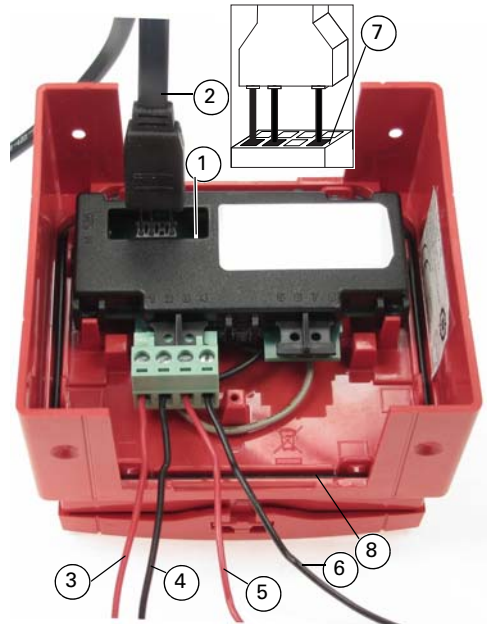

Fig. 2: FC421CP-I Rear View and Wiring Information
The FC421CP-I is programmed with the address prior to installation using an address programming tool. The associated ancillary programming lead plugs into the programming port (see items 1 and 2 in Fig 2). Refer to Fig. 2 for proper orientation.
Ensure that the pins of the ancillary programming lead are inserted completely into the lower row of the programming port (see item 7 in Fig 2) for effective communication with the Address programming tool.
- 3 Connection to the FC421CP-I is made via the 4 way terminal connector as shown in Fig. 2, ensuring correct polarity.
- All conductors to be free of earths. For typical wiring configuration see Fig 2.